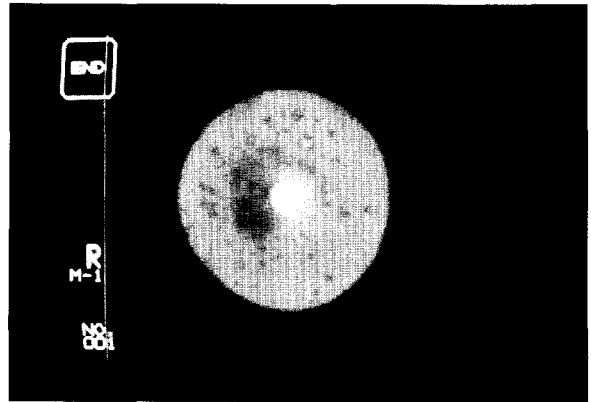

Figure 5-1
① Press the [M] key to enter the medical mode.
② Find a position where the foreign matters in the pupil can be seen clearly, then press the start button. The display changes into a still picture (see Figure 5-1).